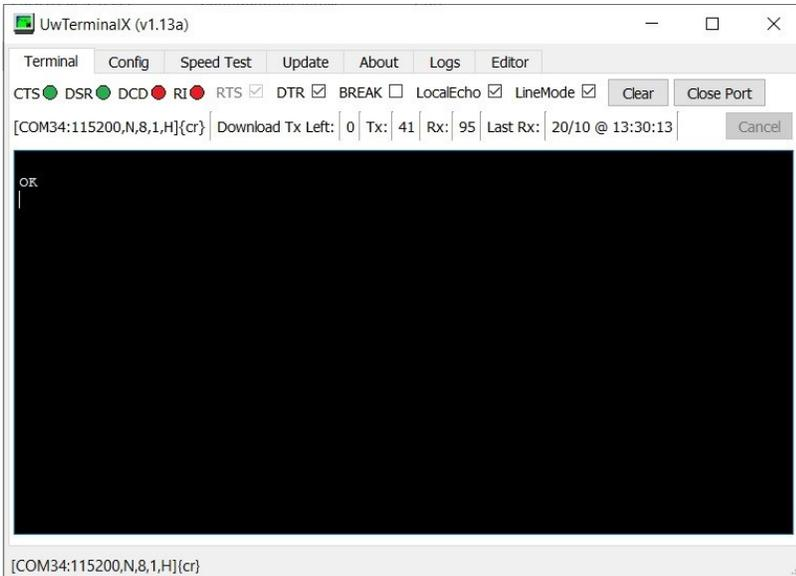

Figure 3: Press return key, response ok
5. Press **Return**. For modules where low power UART operation is disabled, a response of *OK* will be displayed as shown in Figure 3.